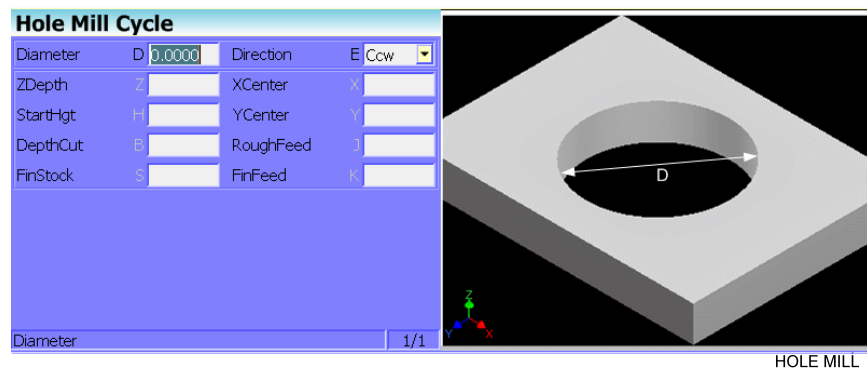

Figure 4-21, Hole Mill Cycle Graphic Menu
2. Highlight **Hole** and press **ENTER** to display the Hole Mill Cycle Graphic Menu. Refer to **Figure 4-21**.